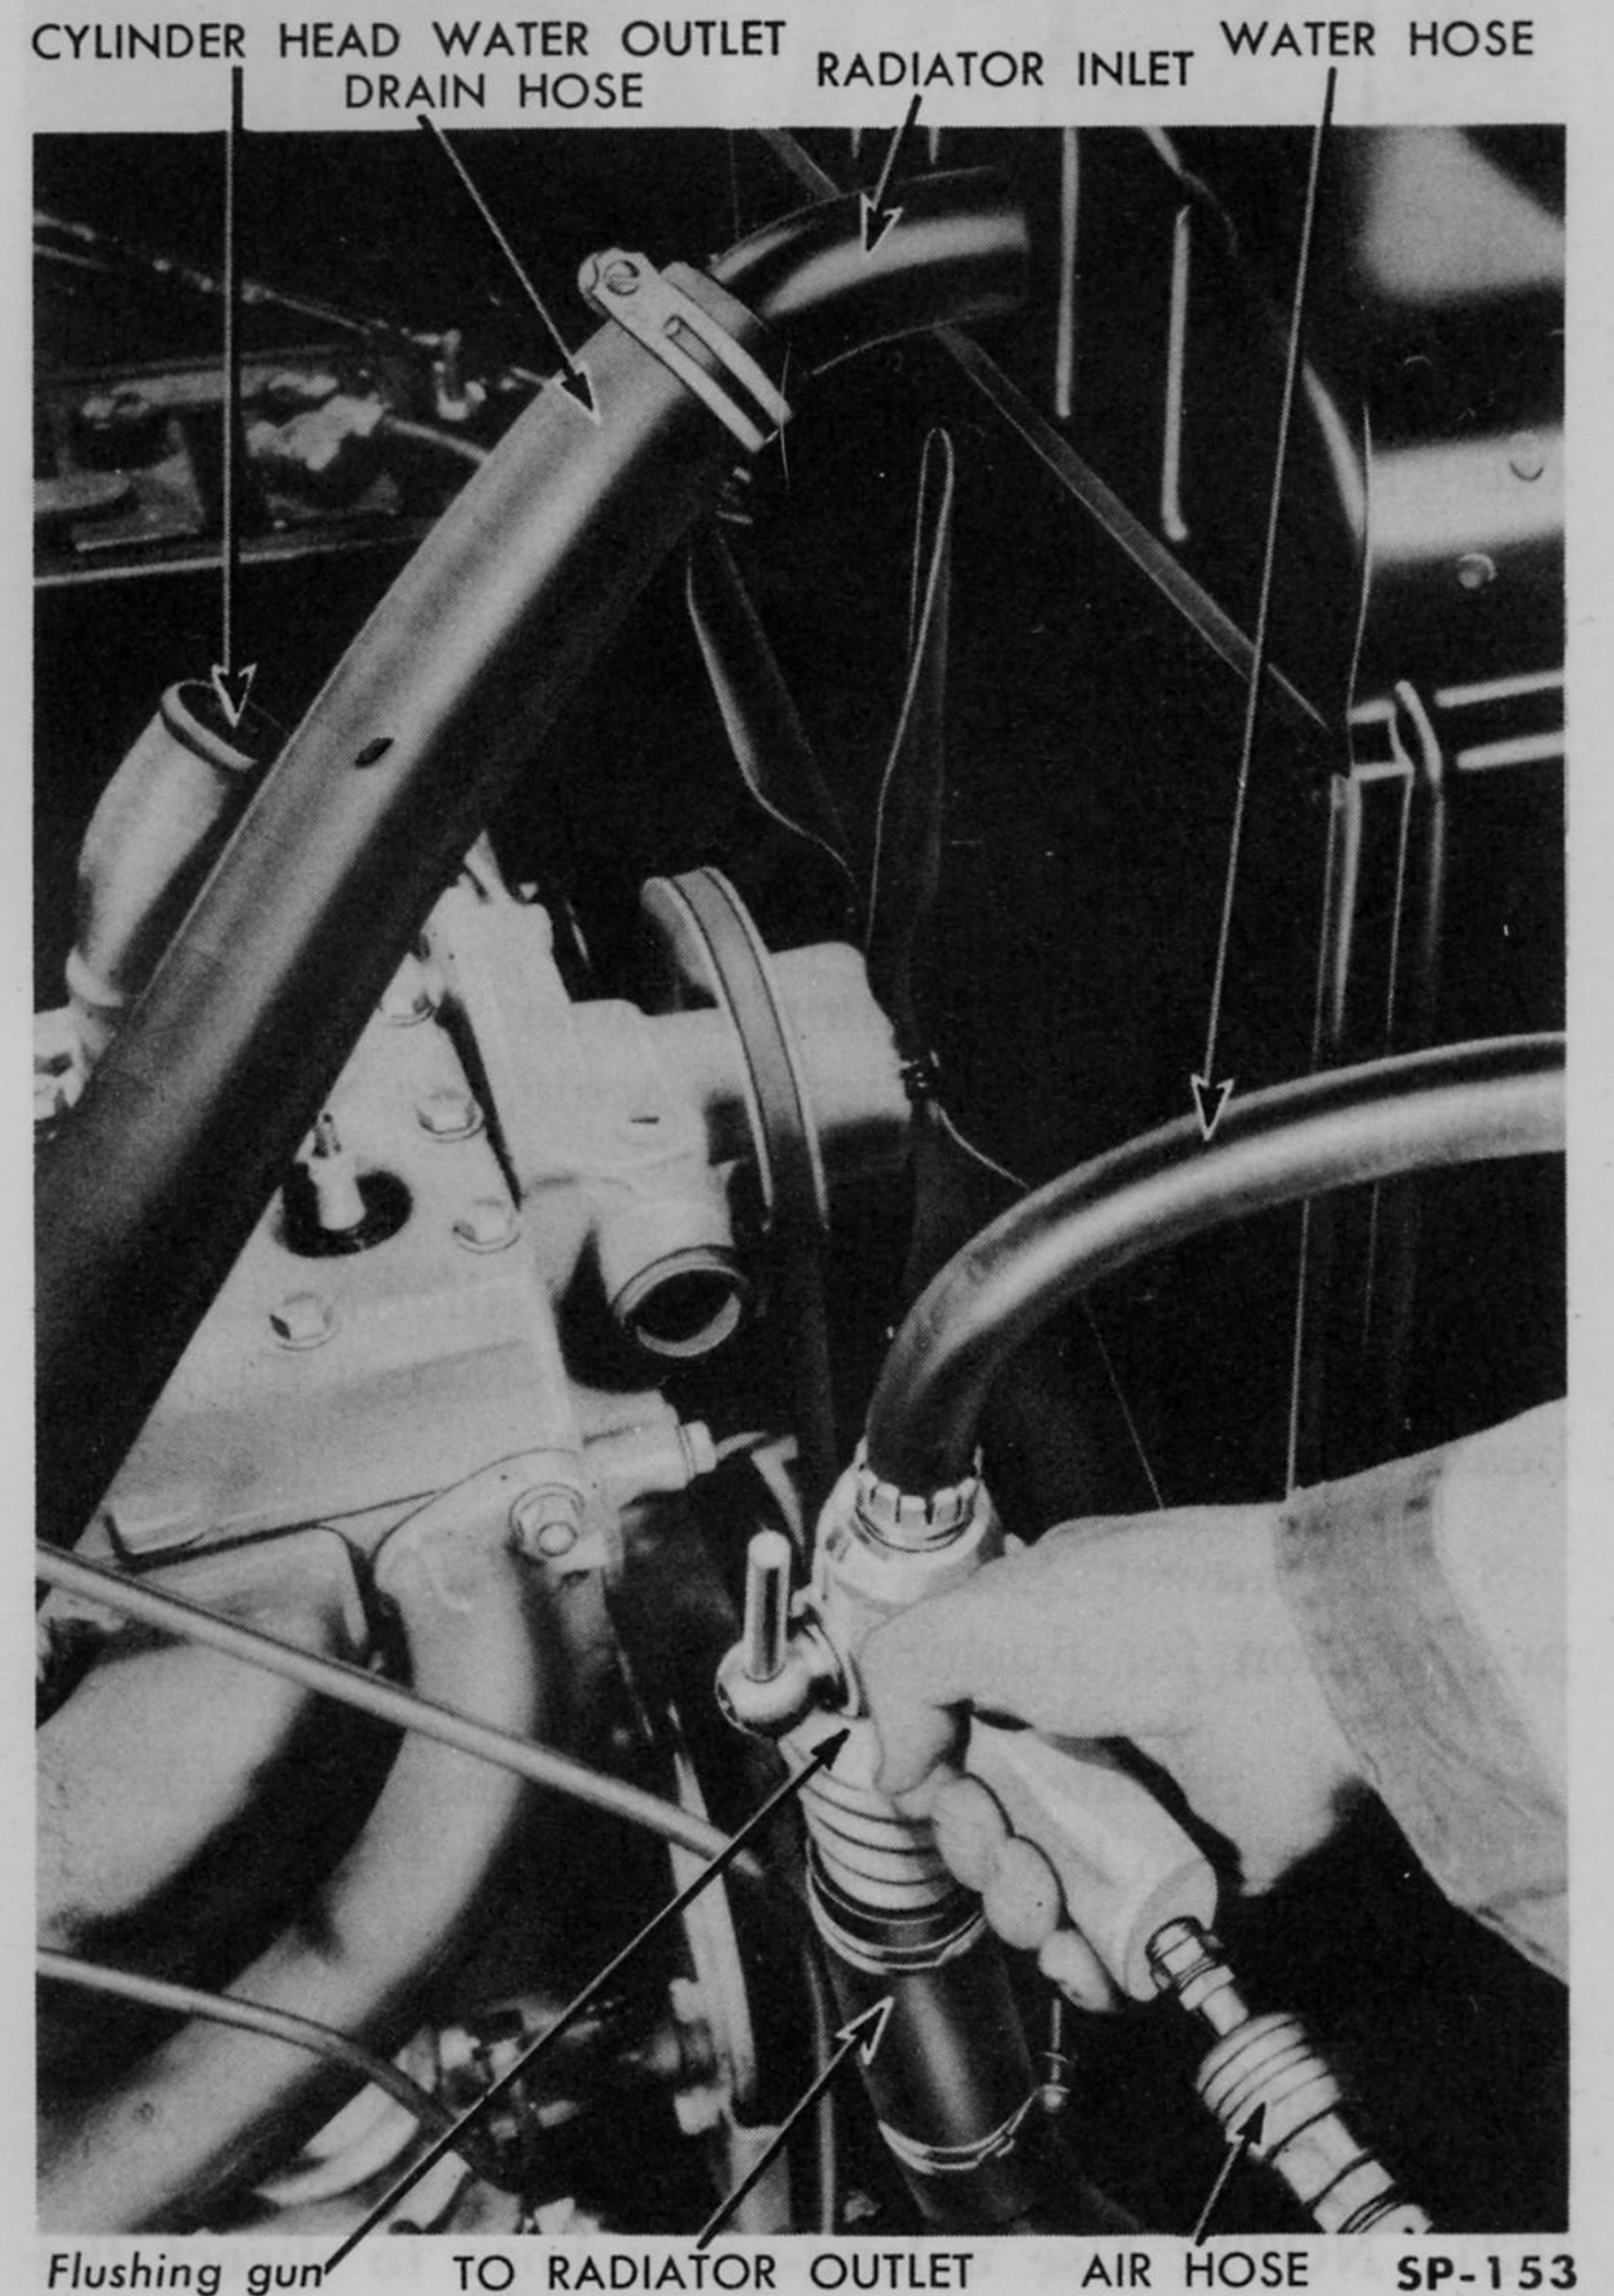

Fig. 162—Reverse Flushing Radiator
**c. PRESSURE FLUSHING.** Whenever a cooling system is badly rust-clogged, as indicated by overflow loss of coolant or abnormally high operating temperature of the system, pressure flushing should be used in the cleaning procedure, to remove scale and loosened deposits of rust. Pressure flushing is accomplished by means of air-and-water Pressure Flushing Gun C-311 manufactured expressly for this purpose available as a special service tool (Figs. 162 and 163).
4. With radiator cap installed, clamp nozzle of flushing gun in lower radiator hose and allow radiator to fill with water. With radiator filled, turn air on gradually (to avoid radiator damage). Repeat this operation until flushing stream is clean as it is discharged from upper radiator inlet hose (Fig. 162). **NOTE:** Use a lead-away hose to direct the flushing stream away from the engine.